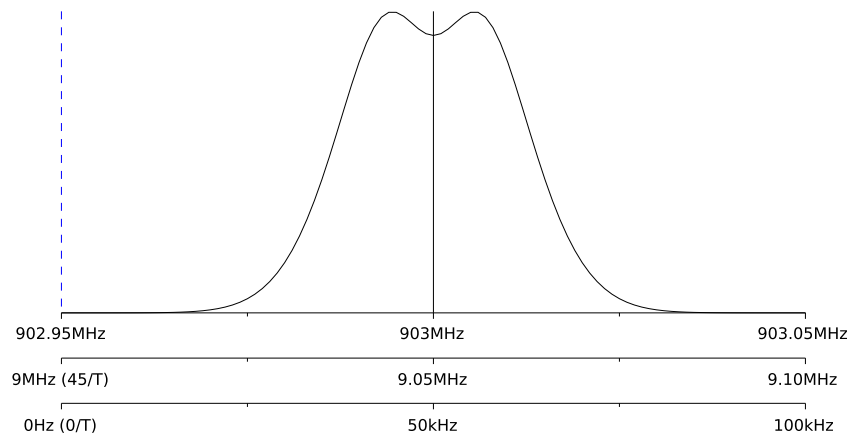

Figure 13: RF Signal, Translated.
Figure 13 on page 16 shows how this signal as it occurs in each of the three places above — only the frequency axis changes. In the original, it is centered on 903MHz (top axis). Once it is translated down by 893.95MHz, it forms an intermediate frequency (IF) signal centered on 9.05MHz (middle axis). When this IF signal is sampled at 200kHz the signal will alias, and the content at 9.05MHz will show up at 50kHz, with the overall signal aliased down to a spectrum that runs from approximately 25kHz to 75kHz. This spectrum is well within the Nyquist rate of 100kHz, and the entire signal is easily encompassed by the available bandwidth of the sampled-time system.